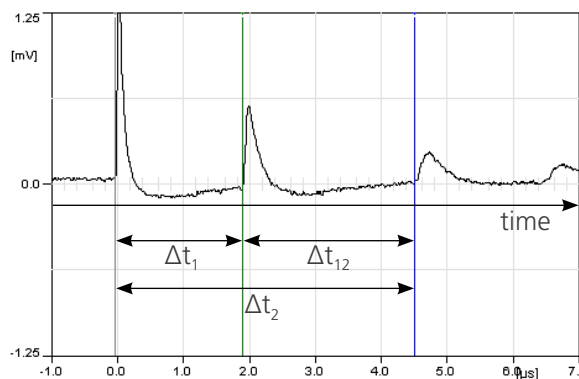

Figure 35: Time diagram
Figure 35 shows the time diagram of the three pulses entering the coupling unit. The reference pulse (R) travels the direct way to the coupling unit. The first reflection (1st) has travelled the opposite direction and is reflected at the open end of the cable; thus, resulting in a time delay  $\Delta t_1$  which indicates the distance of the pulse source to the far end.